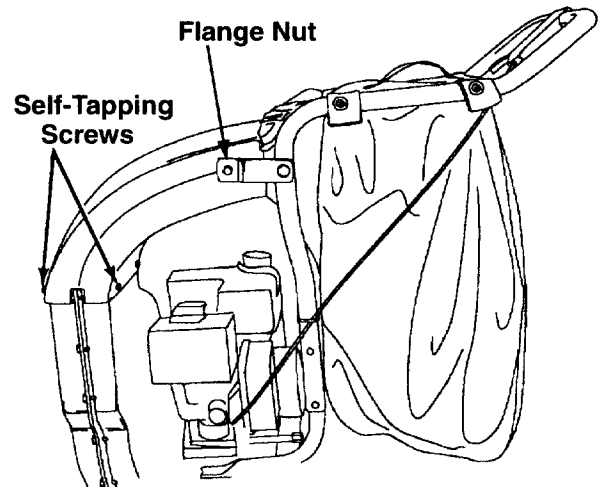

Figure 16
5. Remove the four self-tapping screws that secure the discharge chute to the housing. See Figure 16.
6. Remove the flange nut which secures the support bracket to the handle. See Figure 16. Pivot support bracket up and remove discharge chute from unit.